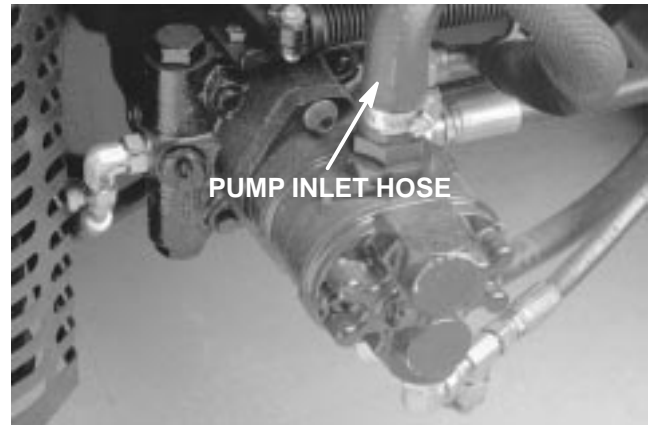

Figure 29
5. Drain hydraulic reservoir as follows (Fig 29):